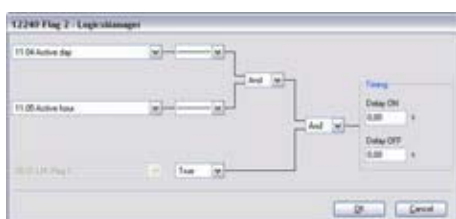

Fig. 158: LogicsManager function "Flag 2"
2. ➤ Configure the LogicsManager function "Flag 2" (parameter 12240 ↗ p. 330) as shown in (Fig. 158).